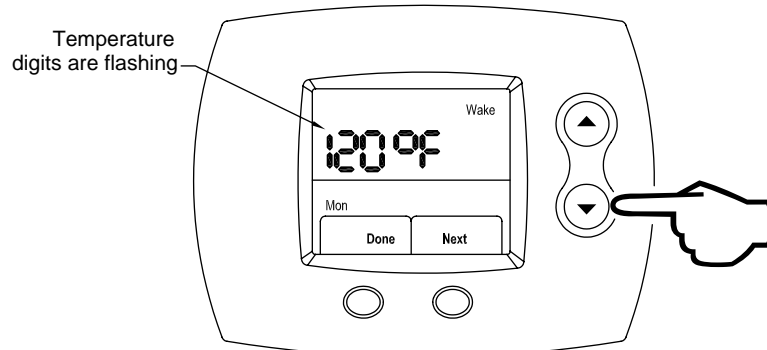

Figure 54
Step 7: Using the **UP** (increase water temperature) or **DOWN** (decrease water temperature) buttons, select the desired water temperature. This is shown in Figure 54.